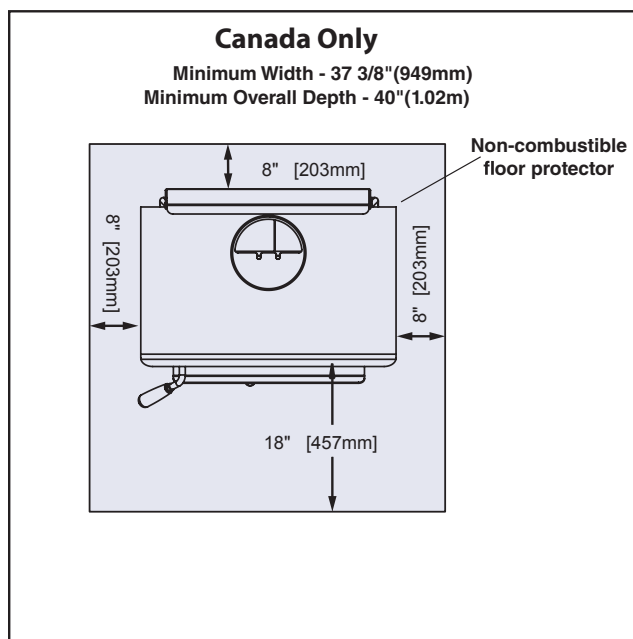
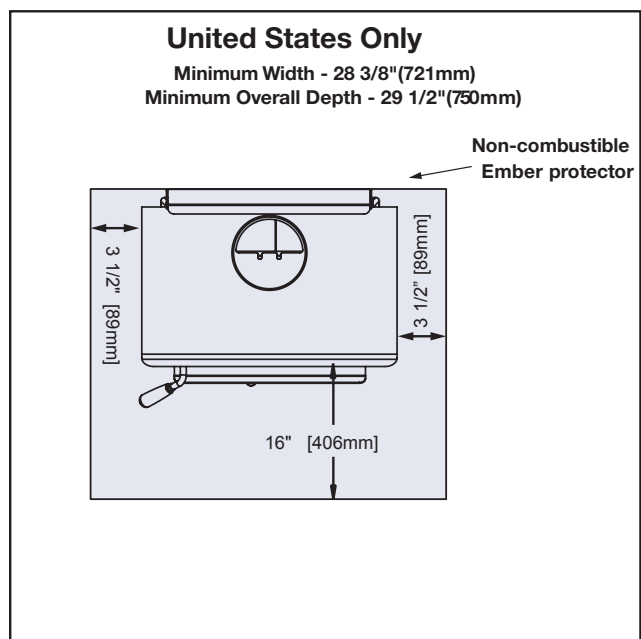

Figure 3: TN10 - CAN Floor protector.
Figure 4: TN10 - US Floor protector.
This heater may be installed using a single-wall connector (smoke pipe) as per local and National fire and Installation codes. See **Single wall Connector** in Figure 3. Clearances may be reduced with various heat shielding or insulating materials. Consult national fire codes and authorities for approval (U.S. -NFPA 211 or CAN. - CSA B365)
In Canada: 18" (457 mm) from the loading door on the firing side and 8" (203 mm) from the sides. See Figure 3, below.
In USA: 16" (406 mm) to the front of the firebox and 8" (203 mm) from the sides of the fuel loading door opening. See Figure 4, below. This protection is also required under the chimney connector and 2" (51 mm) beyond each side.
1. Position stove and floor protection (with hole for combustion air if required) in accordance with the clearances as stated on the label and in Figure 2., and Figure 3 or Figure 4.